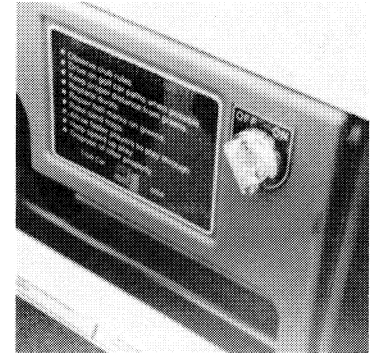

Figure 2
**Key Switch** - The key switch is mounted on the dash to the right of the steering column (See Figure 2). It has two (2) positions, "on" and "off" which are clearly labeled. Remove key in the "off" position only.